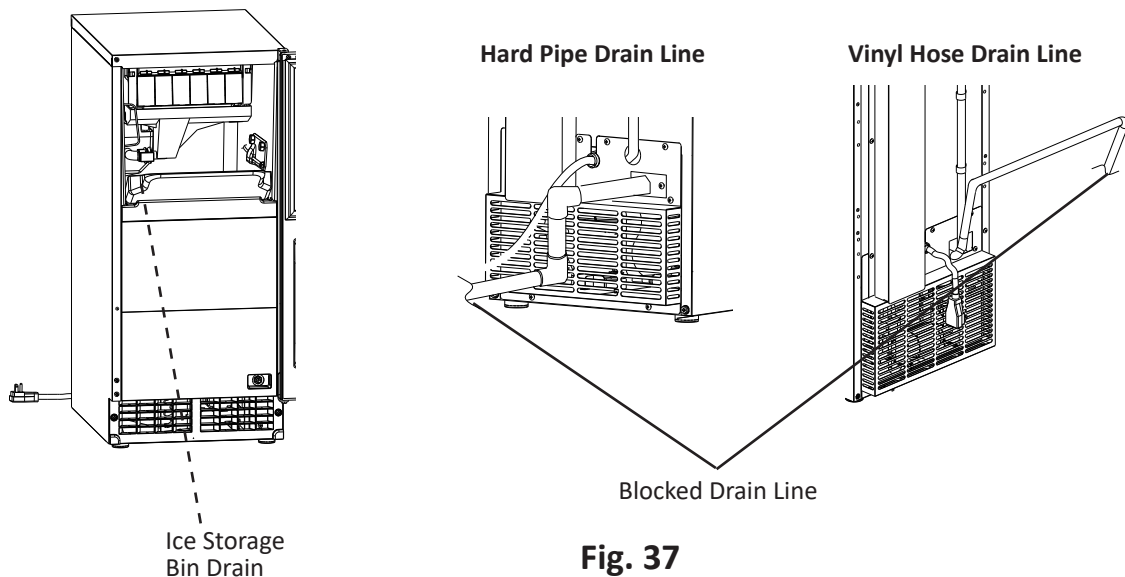

Fig. 37
- 17) Check the drain pump back-up safety switch: Pour another 24 to 30 oz. (710 to 890 ml) of water into the icemaker's ice storage bin, then completely restrict/block the appliance hard pipe drain line or the appliance vinyl tubing drain line while the drain pump is operating. See Fig. 37. Pour more water into the icemaker's ice storage bin until the icemaker turns off. The drain pump will continue to operate. Check for leaks.